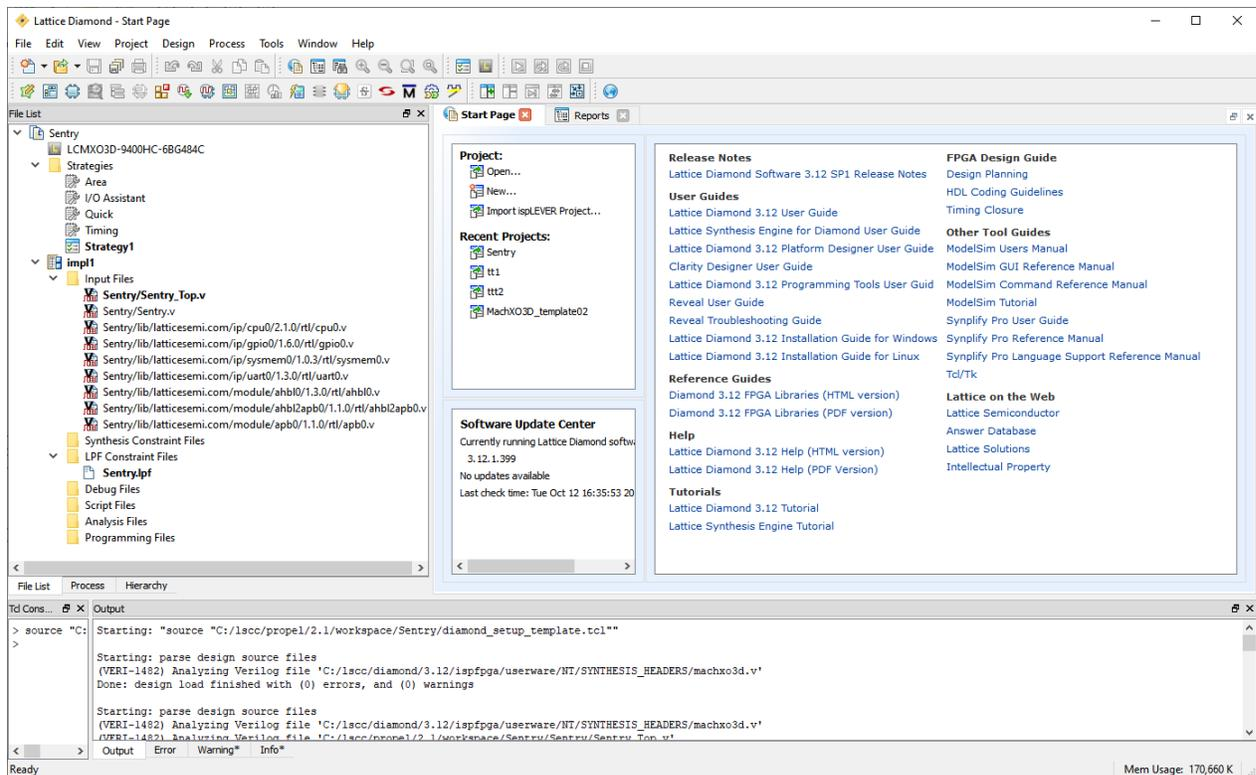

Figure 2.77. Diamond Project
- b. Lattice Diamond is launched with a Diamond project generated for SoC at background (Figure 2.77).